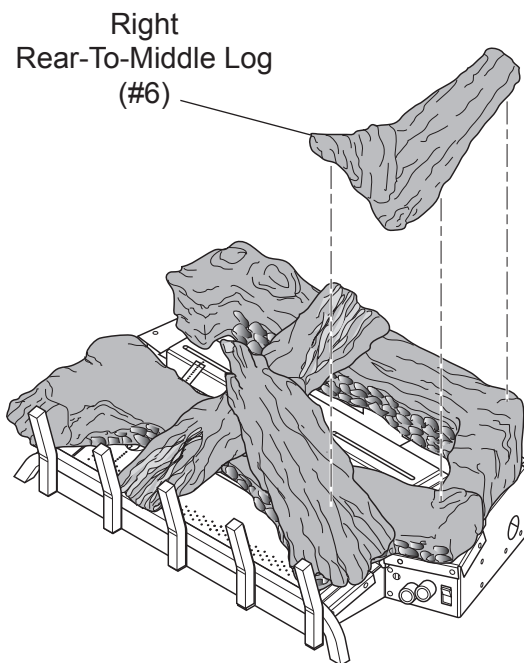

Figure 35 - Installing Right Rear-To-Middle Log (#6)
6. Position back end right rear-to-middle log (#6) on back log. Rest front end of right rear-to-middle log (#6) on front right middle log. *See Figure 35.*